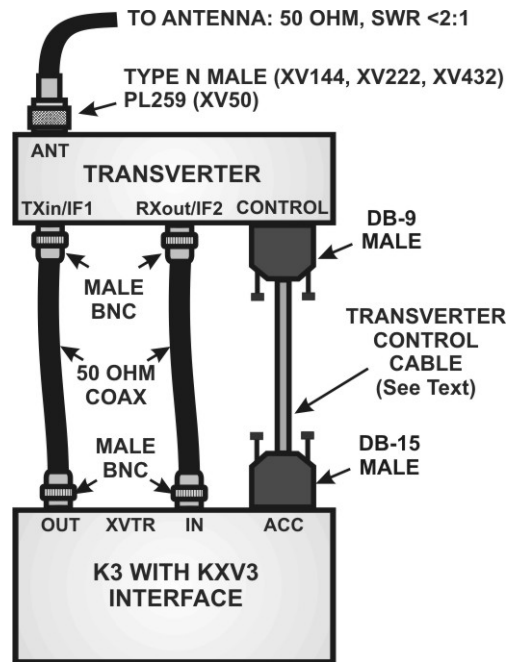

Figure 1. Connecting the Transverter to an Elecraft K3 With a KXV3 Interface.
- Connect the cables as shown in Figure 1 on the previous page.